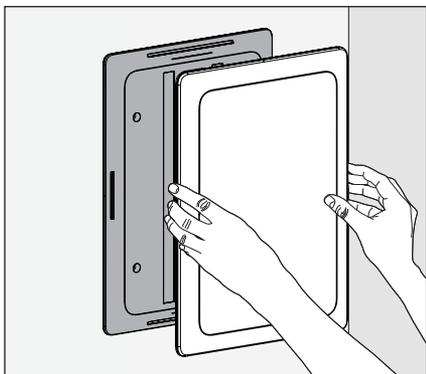

Fig. 3f
4) Gently press the grille onto the front face of the speaker (Fig. 3f). The magnets will ensure correct attachment.